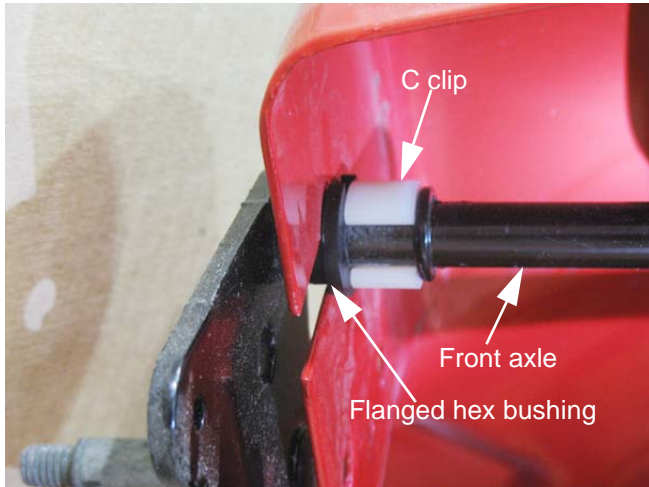

Figure 2.5
4. Just inside of the deck shell, near each end of the axle is a white plastic "C" clip. Remove both "C" clips. See Figure 2.5.